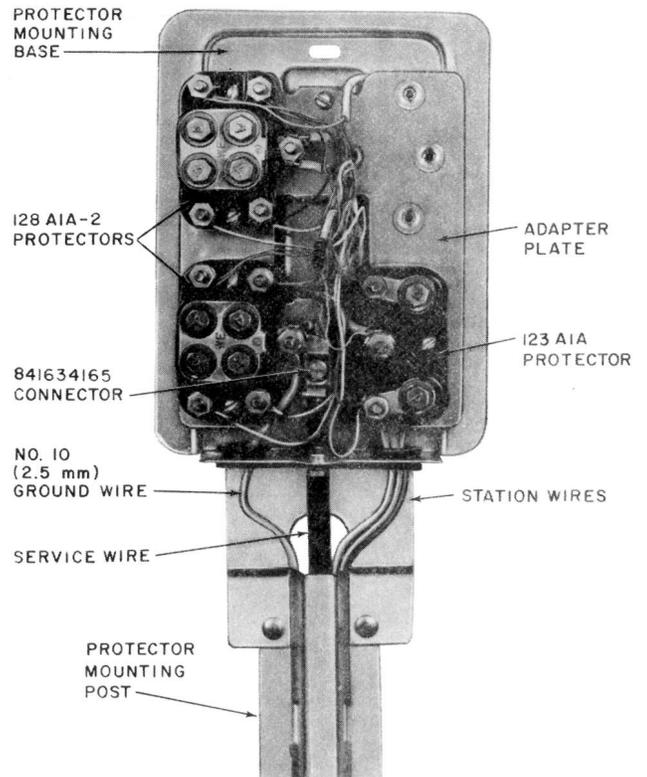

Fig. 24—93D1 (MD) Protector Mounting Installed on Protector Mounting Post
3.29 The 93D1 ♦(MD)♦ protector mounting is designed to house four 123- or 128-type protectors. It is intended to be mounted on a protector mounting post (PMP) where stations are served by buried service wire (Fig. 24) or may be installed on any flat surface.
See Fig. 24 and 27 for examples of service wire terminations.